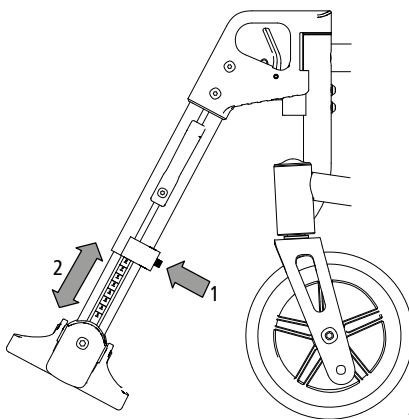

Fig. 34
1. To adjust, loosen the screw connection on the rear of the leg rest (1, Fig. 34) until the lower part of the legrest can be telescoped.
2. Move the foot plate into a position that is comfortable for you (2, Fig. 34) and tight the screw connection again. In order to ensure that both sides are at the same height, indexing has been added to the outside for better orientation.